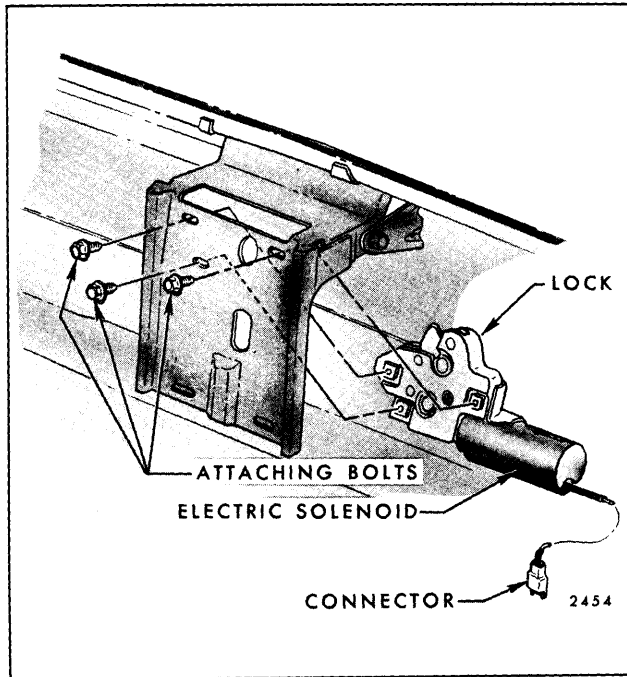

Fig. 8-28—Rear Compartment Lid Lock Electric Release Unit
2. Remove bolts securing rear compartment lid lock assembly to rear compartment lid anchor plate (Fig. 8-28).